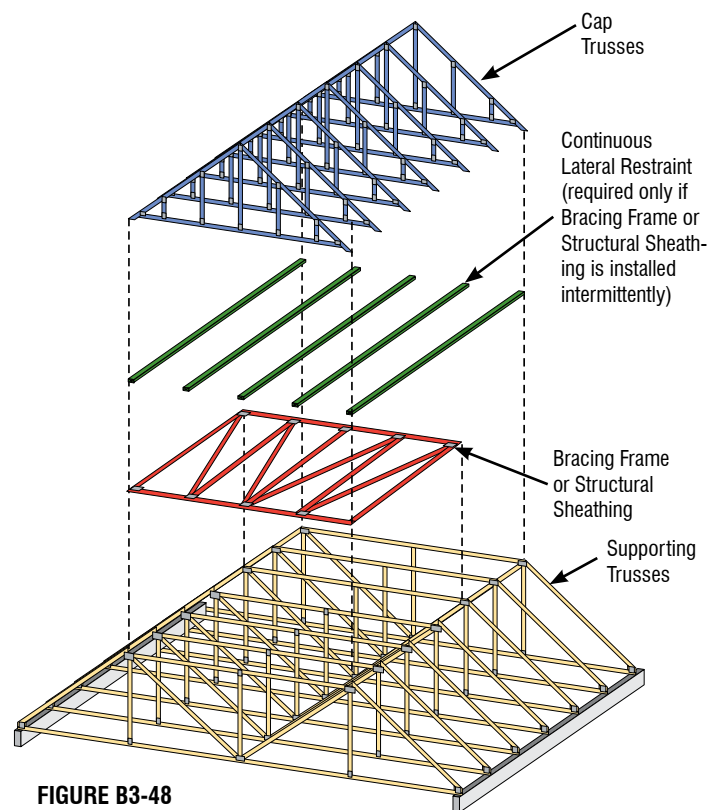

FIGURE B3-48
- Adding Structural Sheathing or using Bracing frames (see Figure B3-48)